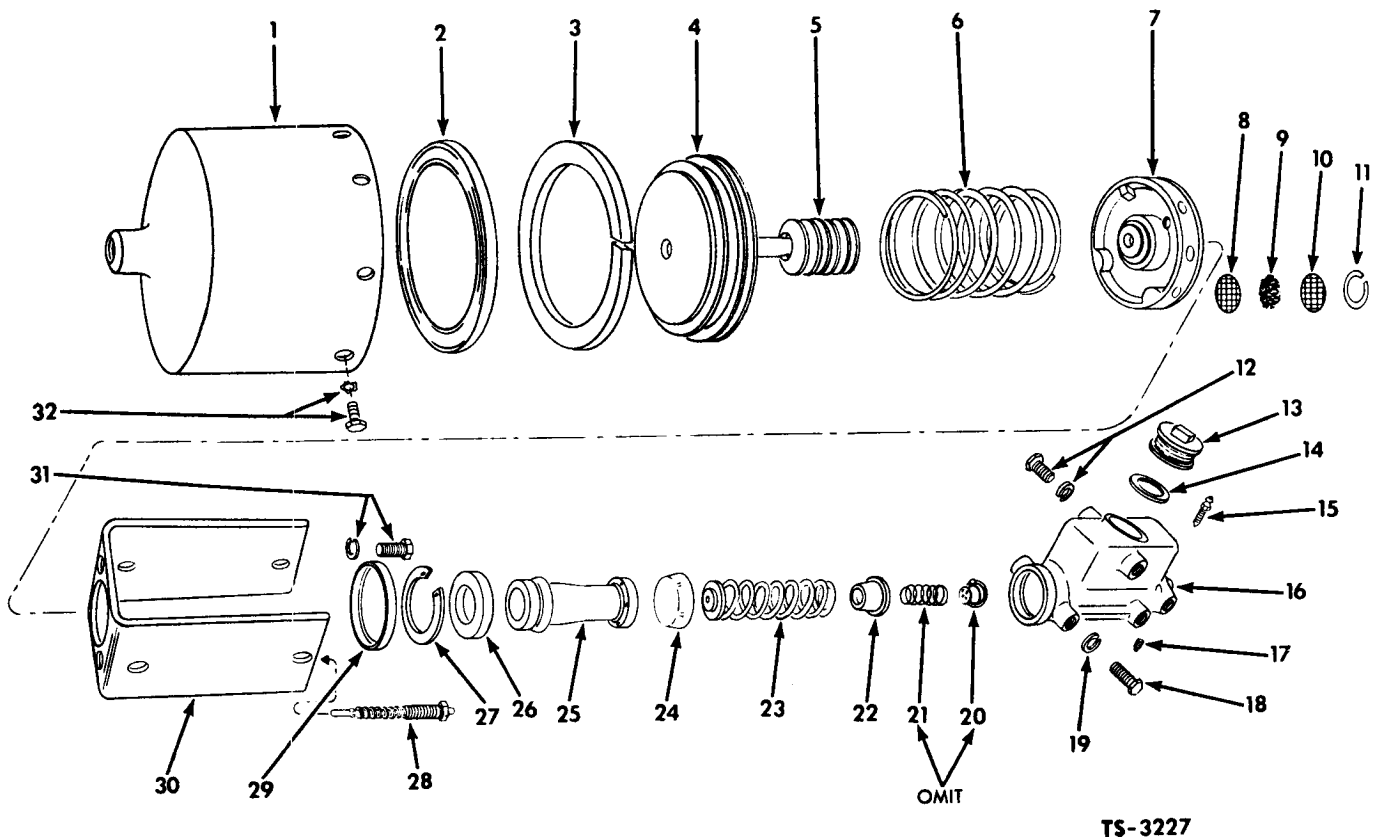

Figure 2
3. Rebuild front master cylinder using Items 24, 25 & 27 shown in Figure 2 from 949848 Repair Kit.
2. Rebuild rear master cylinder using Items 24, 25 & 27 shown in Figure 2 from 949848 Repair Kit. Remove and omit Items 20 & 21 if they are present at this time.